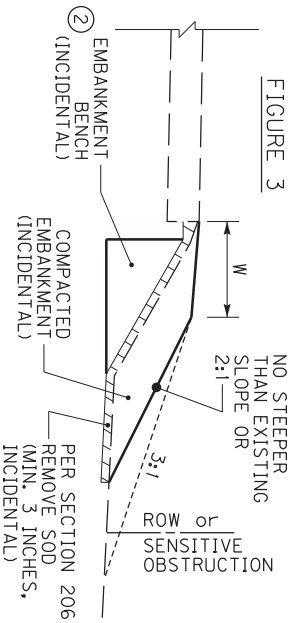

FIGURE 3
5. AS SHOWN IN FIGURE 3, IF A 3:1 FILL SLOPE WILL RESULT IN THE TOE OF SLOPE EXTENDING BEYOND THE RIGHT-OF-WAY OR IMPACT A SENSITIVE OBSTRUCTION, THEN THE FILL SLOPE MAY BE INSTALLED STEEPER THAN 3:1, BUT NO STEEPER THAN THE EXISTING FILL SLOPE, OR A 2:1, WHICHEVER IS FLATTER.